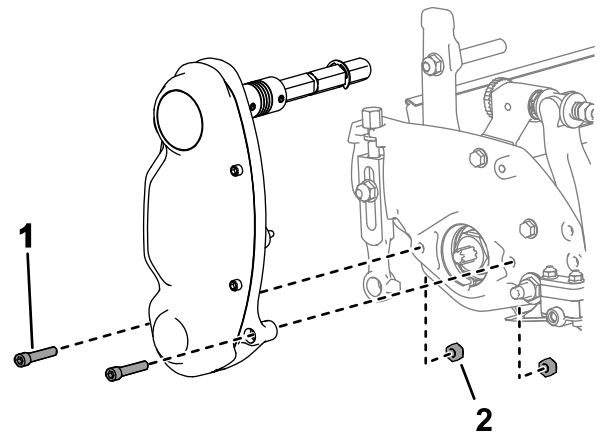

Figure 6
1. Remove the hardware that secures the reel-drive assembly to the side plate (Figure 6).
2. Remove the nuts from the inside of the side plate (Figure 6).